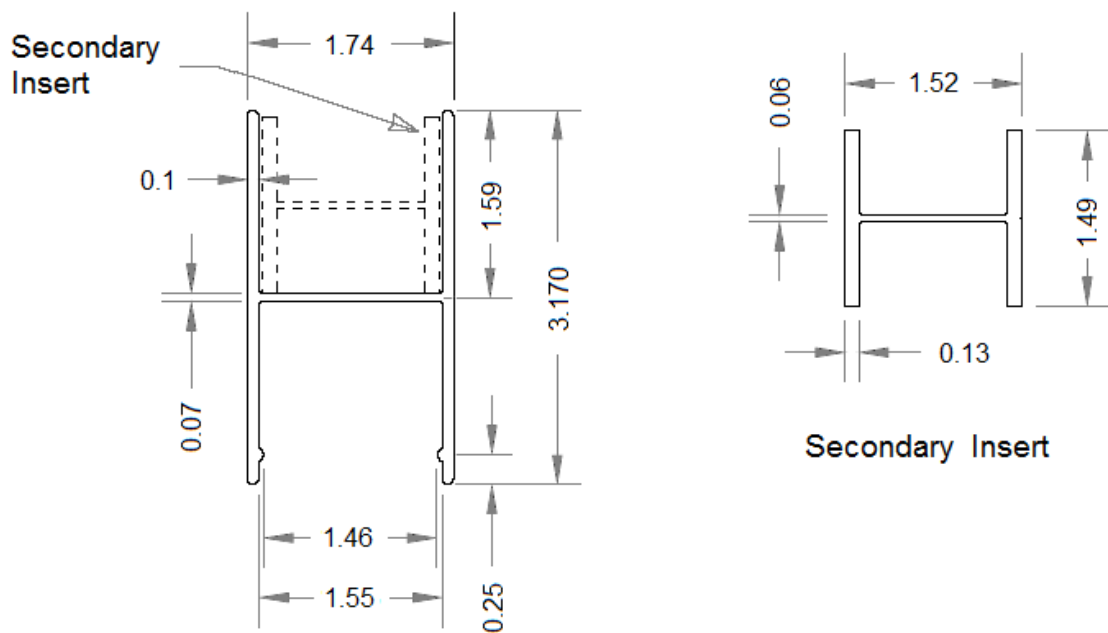

FIGURE 5 – ALUMINUM "STANDARD" H INSERT WITH SECONDARY INSERT
3.1.5.1 An extruded aluminum insert provides reinforcement in the top and bottom rail. A secondary extruded aluminum insert is used in the top rail for guardrail lengths exceeding 8-feet. See Figure 5.